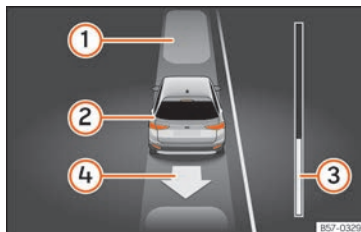

Fig. 287 On the instrument panel display: exit a parallel parking space.
panel display shows the forward indication. The progress bar »» Fig. 287 ③ indicates the distance to cover »» page 309.